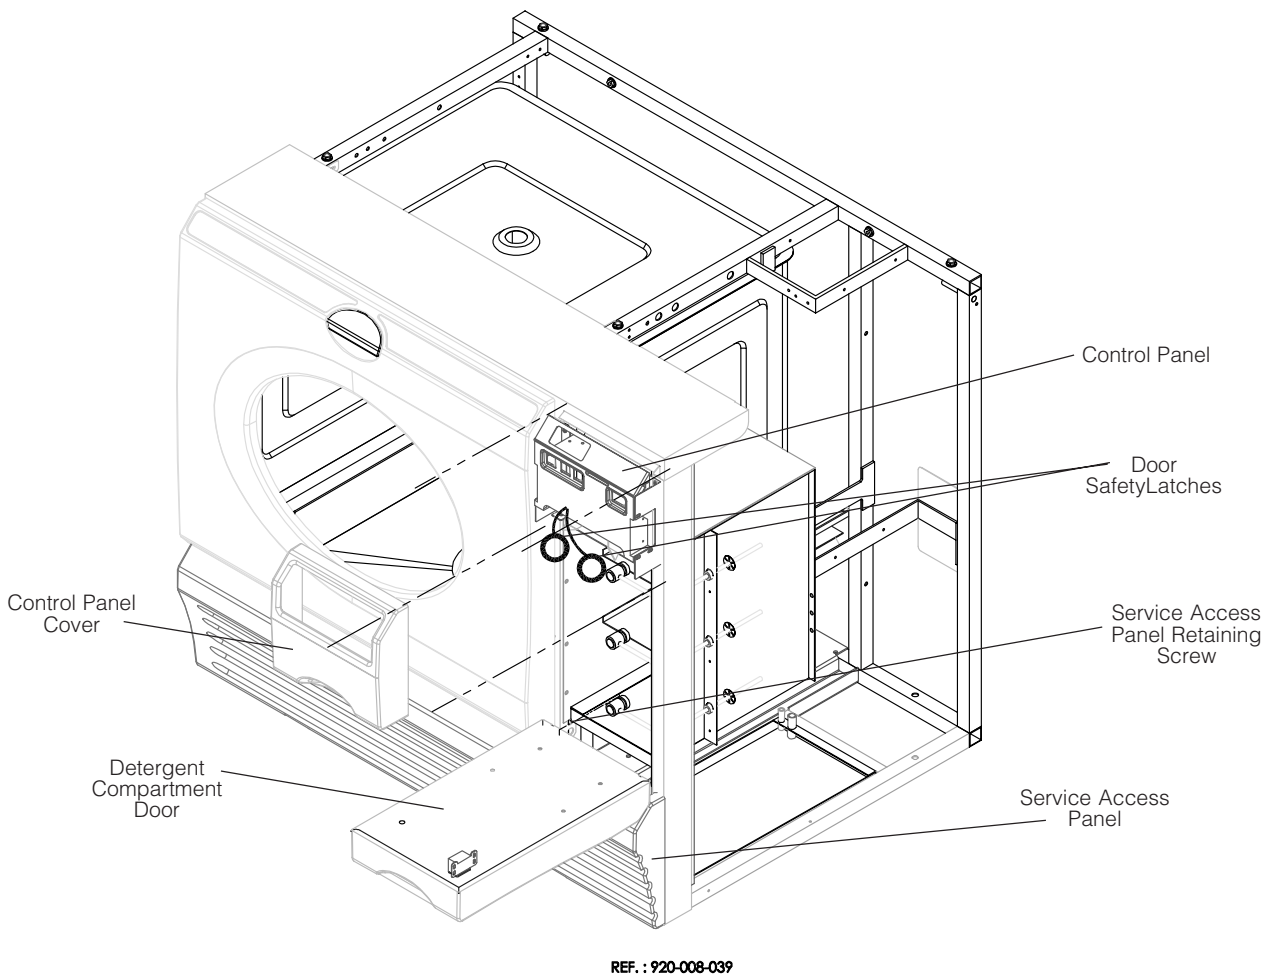

Figure 2-5. Service Access Panel Retaining Screw and Door Safety Latches
13. Open detergent compartment (see Figure 2-5).
14. Remove screw holding service access panel to frame (see Figure 2-5). Remove service access panel and set aside.
6. Locate door manual safety latches (see Figure 2-5). To open the door, pull on the safety latches one after the other to release the door lock.